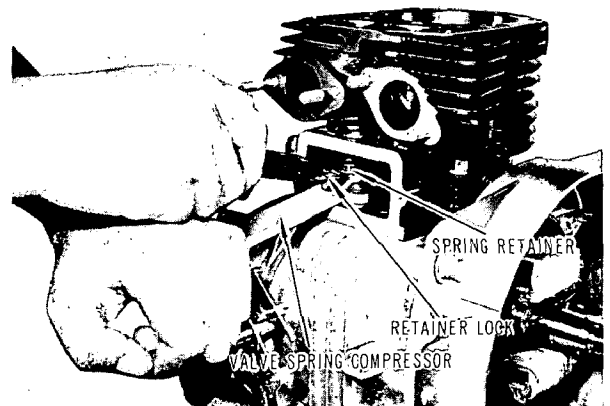

Fig. 6-3-2
- 2) Detach retainer locks and valves by lifting valve spring using a valve spring retainer. Proceed in the same way both for intake valve and exhaust valve. (Fig. 6-3-2)